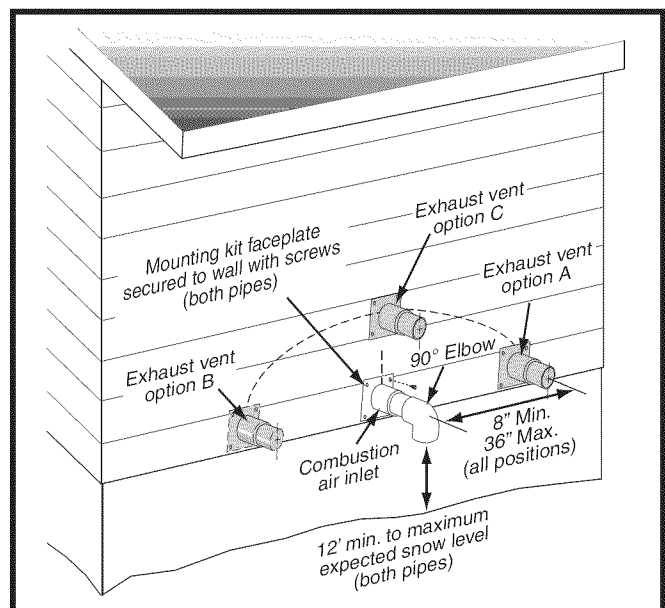
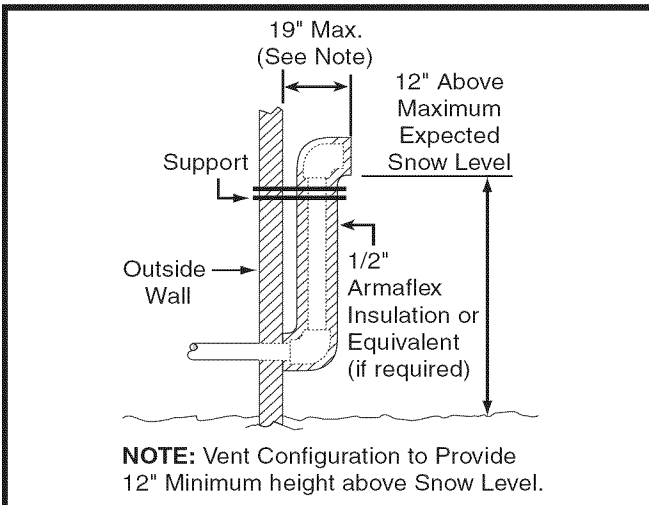

Figure 6. Inlet & Exhaust Pipe Clearances
Figure 8. Alternate Horizontal Vent Installation
- Vent and combustion air intake terminations shall be installed as shown in Figures 6 & 7 (page 13) and in accordance with these instructions:
- When the vent pipe must exit an exterior wall close to the grade or expected snow level where it is not possible to obtain clearances shown in Figure 6, a riser may be provided as shown in Figure 8. Insulation is required to prevent freezing of this section of pipe. See Table 3 for vent freezing protection.